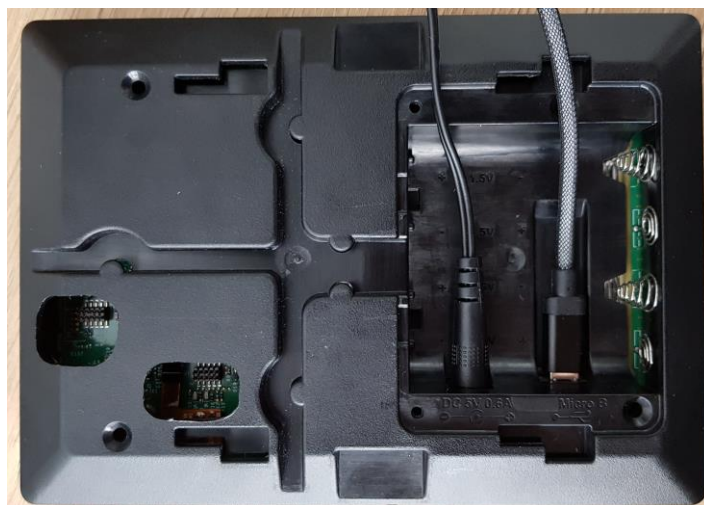

Figure 6-2 Digital Signage Board with power plug and USB cable connected
- Connect a Power plug to the tablet (Figure 6-2);